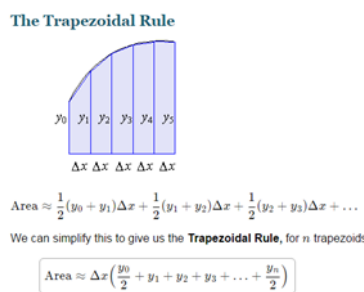

Figure 56 Trapezoidal Rule
- ii Evaluate total area below 0 volt by using Trapezoidal Method Area Calculation (refer to Figure 56)